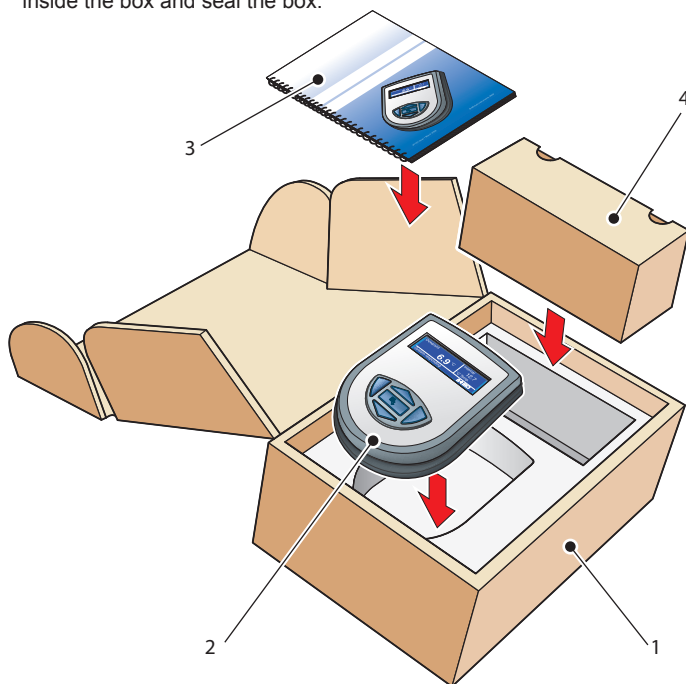

Figure 7.1 - Instrument packing details
3. Pack the instrument in its original case (1) as shown in Figure 7.1.